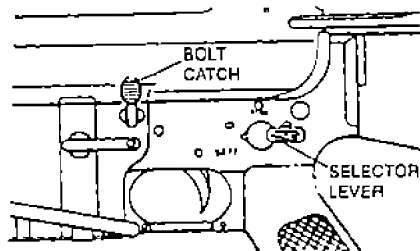

FIGURE 10
3. Press in on bottom of thumb piece of bolt catch while grasping and pulling back on the charging handle, to cock the hammer and leave bolt and carrier latched open to the rear. (See Figure 10.)